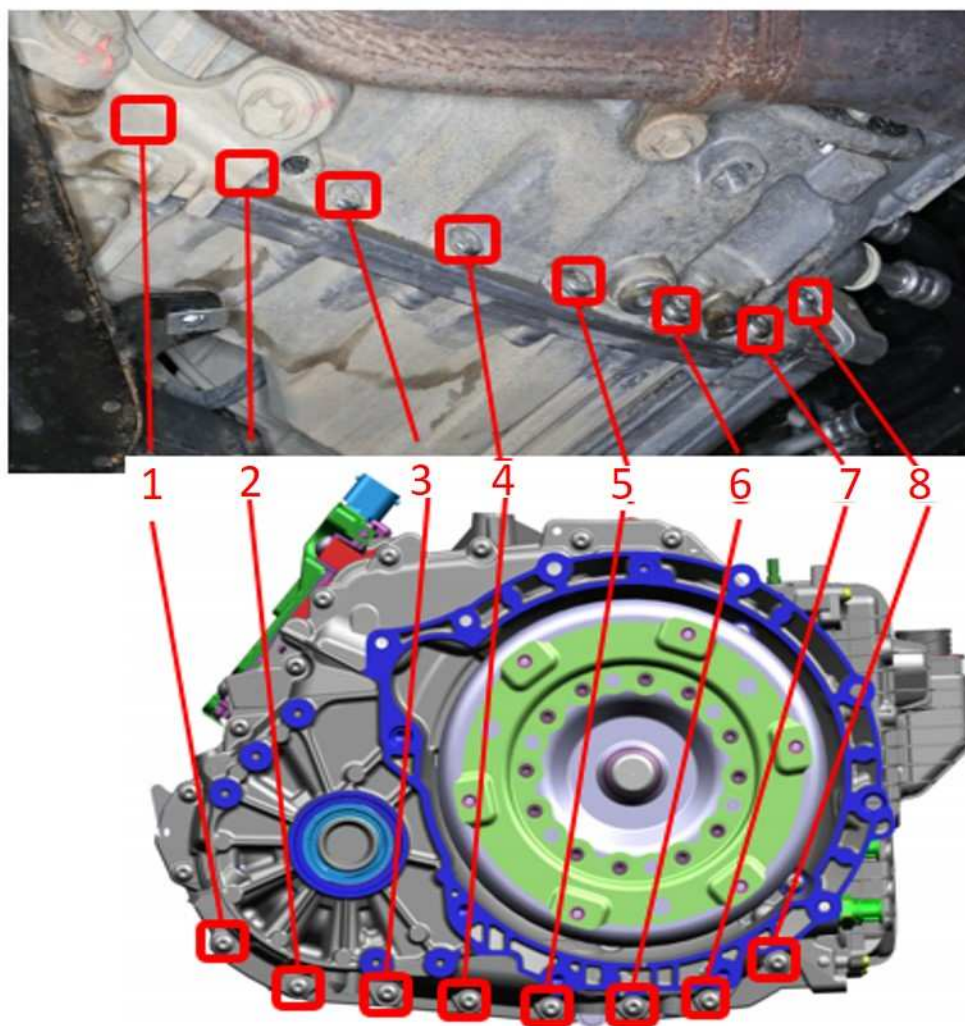

Fig. 4
3. Starting at bolt #8 and then working to bolt #1, torque bolts to 35 N·m (26 ft. lbs.) (Fig. 4) .